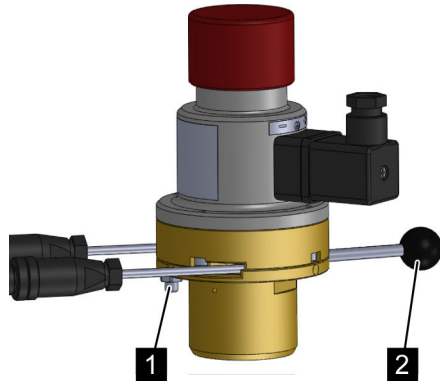

Fig. 24: Resetting the isolation
2. ➤ Undo the hexagon nut (Fig. 24/1) on the electric release device using a wrench.
3. ➤ Turn the manual lever (Fig. 24/2) on the electric release device to the "Operation" position.